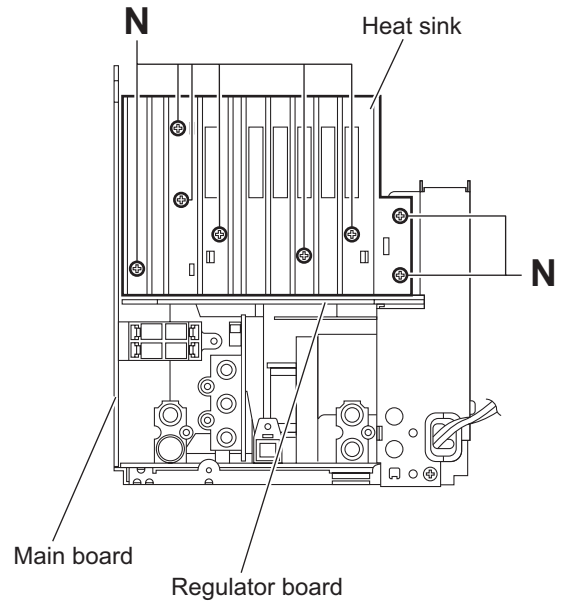

Fig.11
3.1.8 Removing the heat sink (See Fig.11)
- Remove the rear cover, side panels(L)/(R) and top cover assembly.